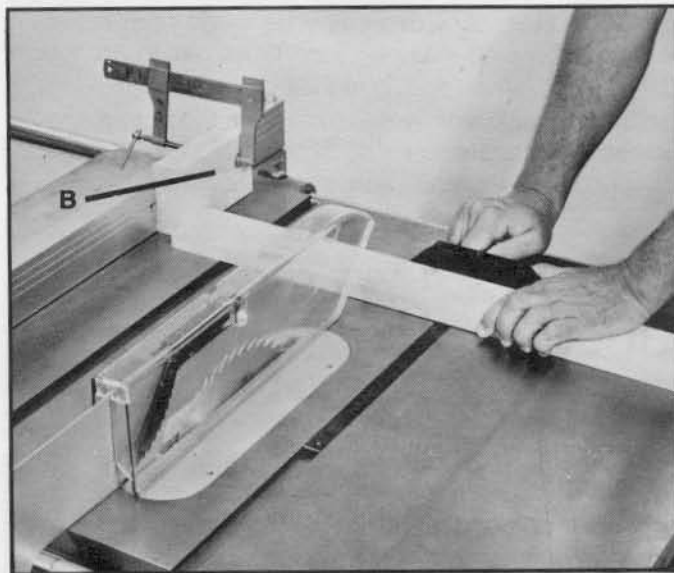

Fig. 60
When cross-cutting a number of pieces to the same length, a block of wood (B), can be clamped to the fence and used as a cut-off gage as shown in Fig. 60. It is important that this block of wood always be positioned in front of the saw blade as shown. Once the cut-off length is determined, secure the fence and use the miter gage to feed the work into the cut.